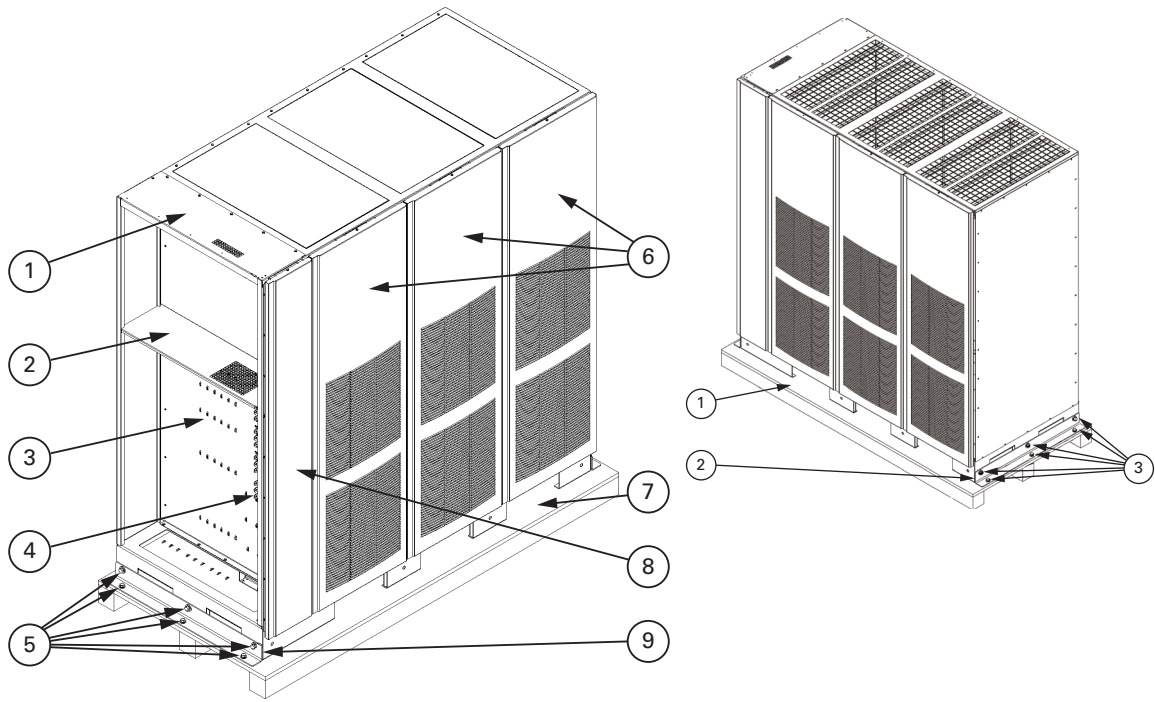

Figure 4-3. Removing the UPM section right side shipping bracket, UPM
3. Remove the three bolts securing the right side shipping bracket to the cabinet and three bolts securing the bracket to the pallet (see Figure and Figure 4-3). Remove the right shipping bracket. If permanently mounting the cabinet, retain the shipping bracket and securing hardware for later use.